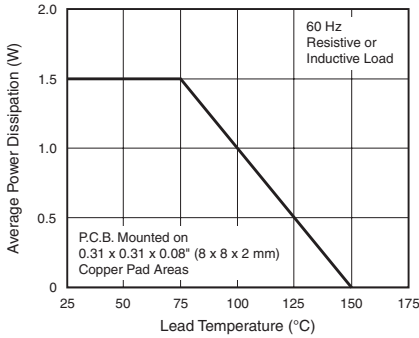

Figure 1. Maximum Continuous Power Dissipation
- (1) Suffix "A" denotes ± 10 % and suffix "B" denotes ± 5 %
- (2) Maximum steady state power dissipation is 1.5 W at TL = 75 °C (Fig. 1)